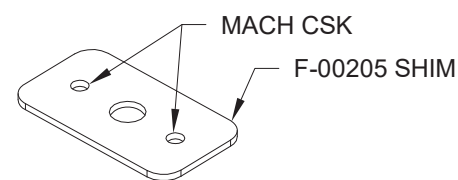

FIGURE 3: F-00205 SHIM PREP
Step 12: Machine countersink the #40 holes in the F-00205 Shim as shown in Figure 3.